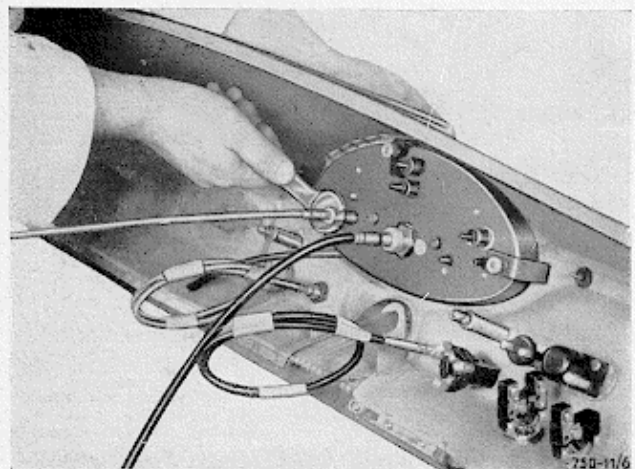

Fig. 5 - Disconnecting oil-gauge tube from the instrument panel
- remove the oil tube (Fig. 5);